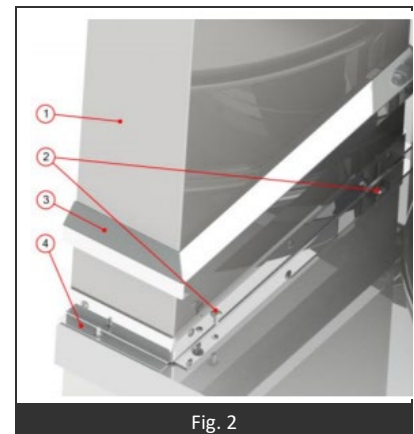

Fig. 2
- Put the flue on top (Fig2 Item 1)
- Fasten the flange on top (Fig2 Items 4 and 2)
- Fit the flange cover (Fig2 Item 3).